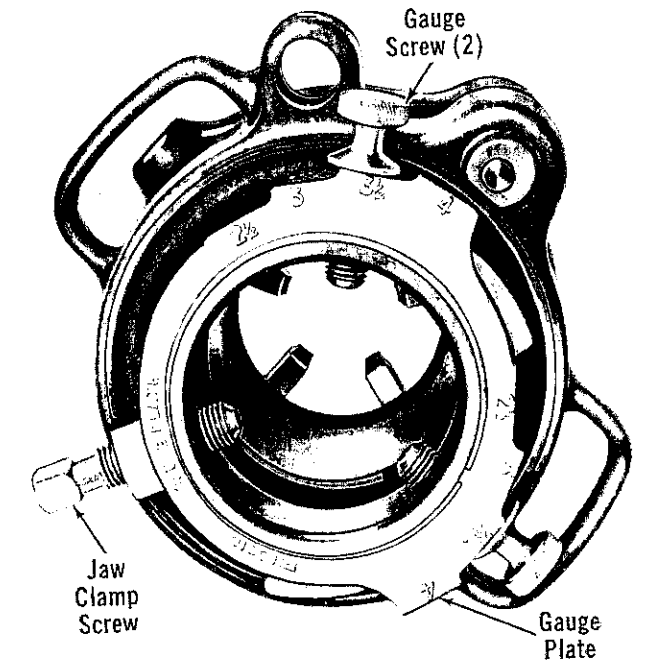

Figure 19. No. 4PJ Threader with Workholder Up.
9. 4PJ only - Loosen Workholder Jaws Clamp Screw (Fig. 19) and remove pipe.
**Workholder (Pipe Size) Adjustment Procedure (Fig. 19)**